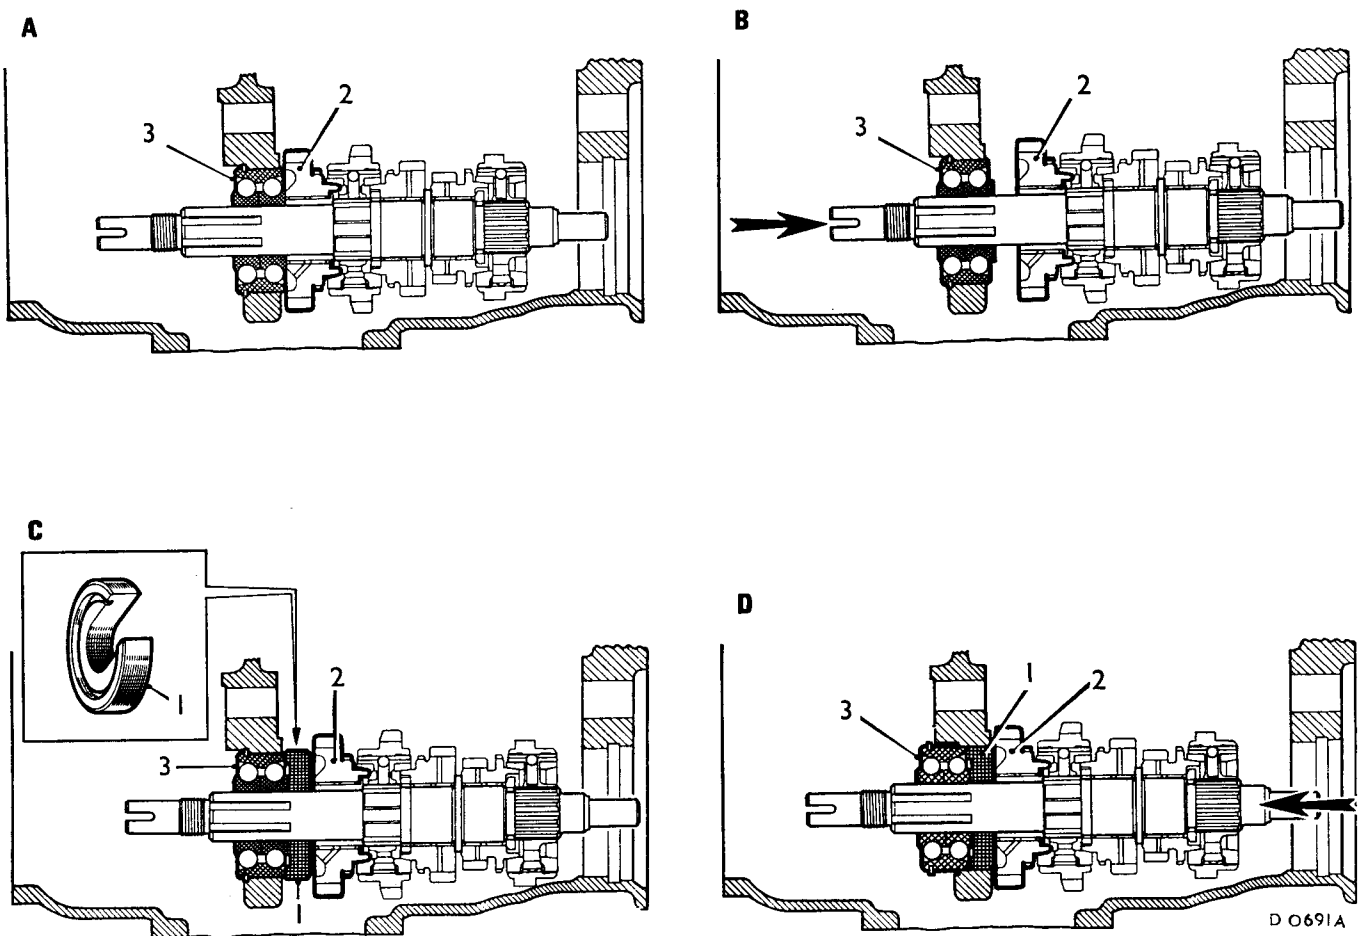

Fig. F.2
(18) Refer to Fig. F.2. Drift the third motion shaft backwards, as indicated by the arrow in (B), until a special Service tool (1) can be placed between the first speed gear (2) and the bearing (3), as illustrated in (C). On three-speed synchromesh gearboxes use 18G 613, and on four-speed units 18G 1127 with their relieved side towards the bearing. These two tools must not be interchanged, or the bearing or casing will be damaged. Drift the third motion shaft forward as illustrated in (D), to push the bearing (3) from the web, taking care not to damage the selector forks. Pull the bearing from the shaft, and lift the shaft from the casing.
(19) Remove the strainer assembly.
(20) Withdraw the reverse shaft, gear and selector fork.